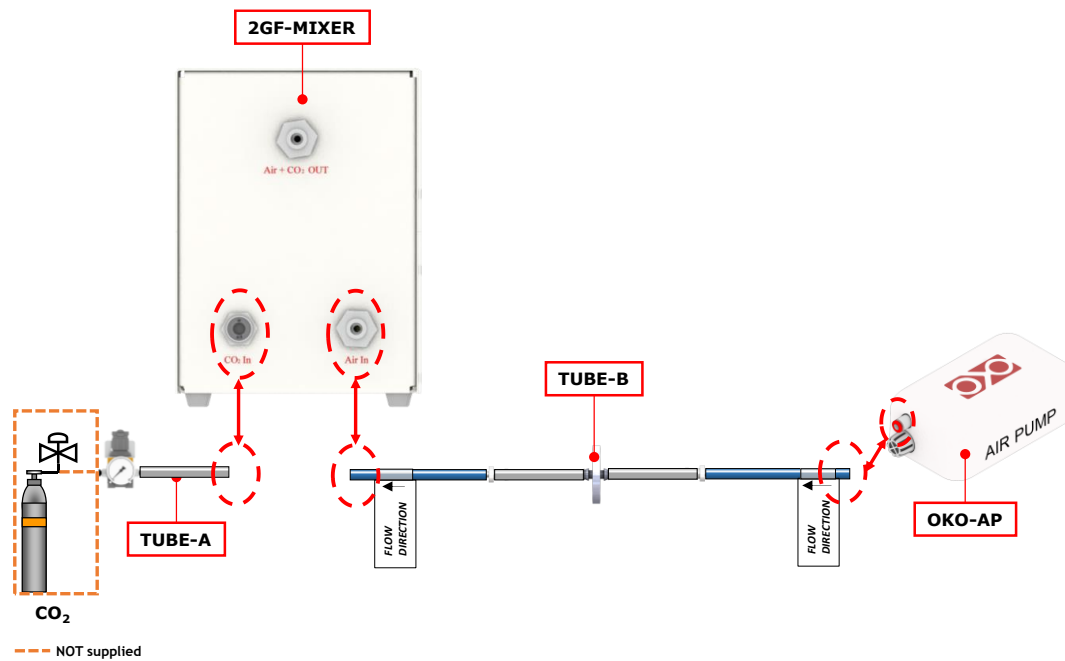

Figure 15. UNO-T-H-CO₂ - Inlet gas connection.
1. Install the pressure gauge between the CO2 supply and the 2GF-MIXER (see Figure 15). The pressure gauge is equipped with a push to fit input connector for a 6 mm O.D. rigid tube.
2. Use TUBE-A to connect the output connector of the pressure gauge to the “CO2 In” push to fit connector on the rear panel of 2GF-MIXER (see Figure 15). Set the pressure at 1 barg (14.5 psig).
3. Connect TUBE-B between the OKO-AP gas connector and the “Air In” push to fit connector on the rear panel of 2GF-MIXER (see Figure 15). TUBE-B is equipped with a PTFE filter in the middle. Make sure to install the TUBE-B in the direction of the gas flow indicated by the labels on both ends of TUBE-B and on both sides of the PTFE filter.